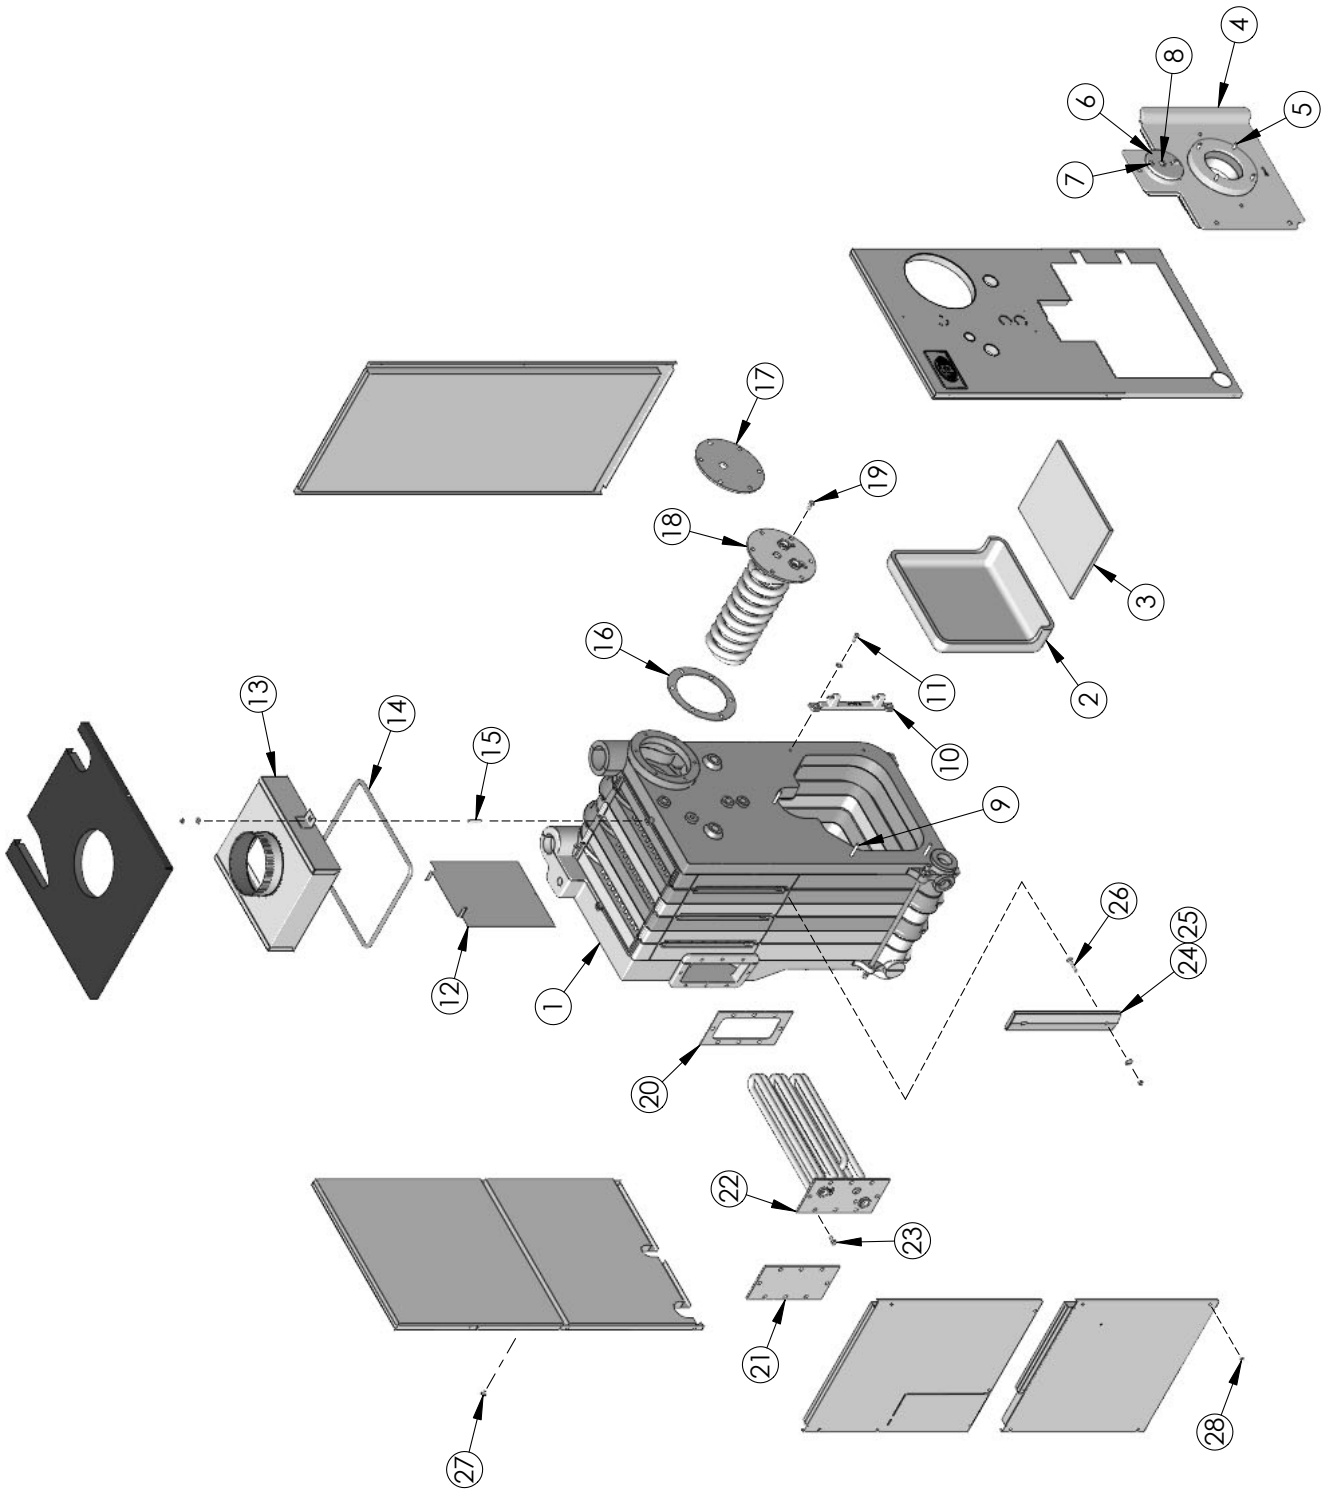

Figure 2.3: Boiler Exploded View
2. Refer to Figure 2.3 for exploded view of boiler while checking and/or assembling parts of the boiler.
1. Refer to Figure 2.3 for exploded view.